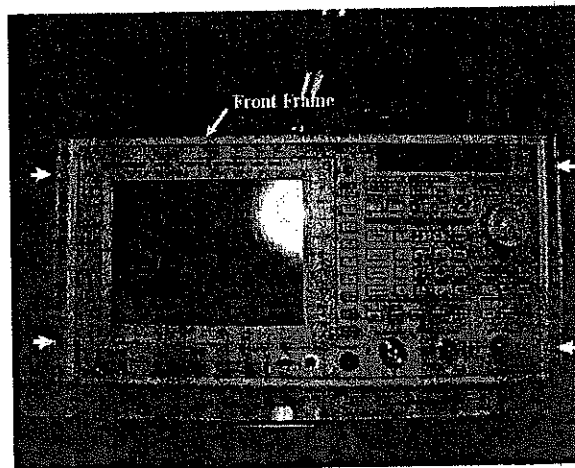

Figure 5-5 Location of Screws
4. Remove front frame to remove 4pcs hexagonal head screws on both of right and left sides, referring Figure 5-5.